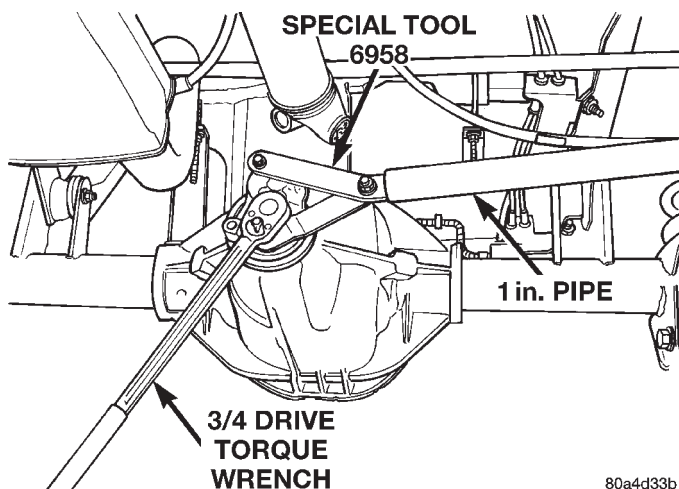

Fig. 20 Tightening Pinion Nut
(7) Using yoke holder 6958, a short length of 1 in. pipe, and a torque wrench set at 380 N·m (280 ft. lbs.), crush collapsible spacer until bearing end play is taken up (Fig. 20).
(8) Slowly tighten the nut in 6.8 N·m (5 ft. lbs.) increments until the rotating torque is achieved.